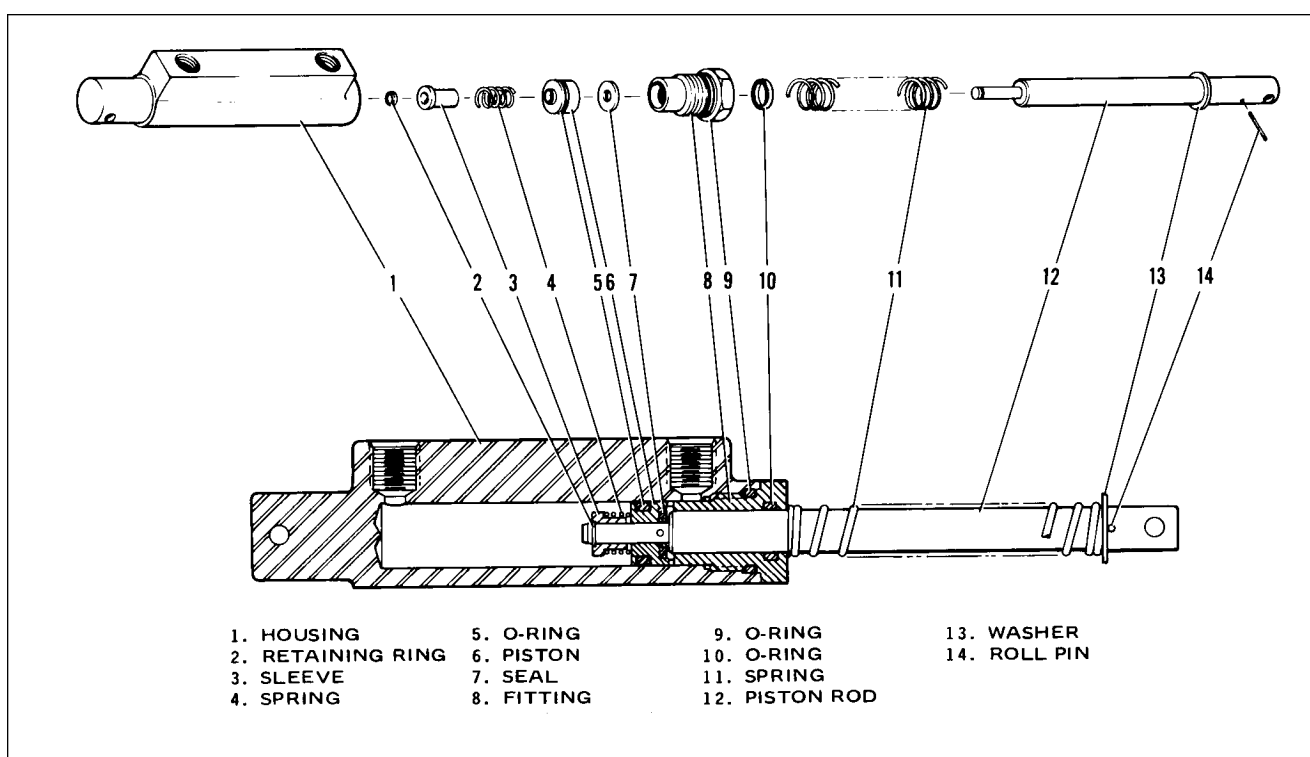

Figure 32-20. Brake Cylinder (17000) (Toe Brake)
DISASSEMBLY OF BRAKE CYLINDER. (Refer to Figure 32-20.)
1. Gar-Kenyon cylinder number 17000 (Refer to Figure 32-20).